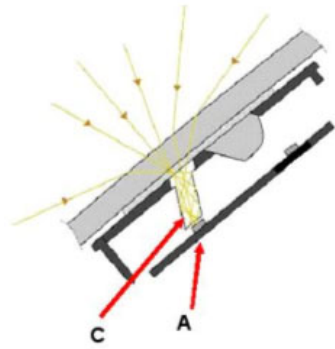

Fig 1
Figure 1 represents the condition in which the light, generated by a LED (A), refracts completely on the glass (C) and hits the photodiode (B) that is the real sensor.
Fig. 1 represents the condition in which the light has a wide and diffused angle of incidence, typical of the condition of ambient light.